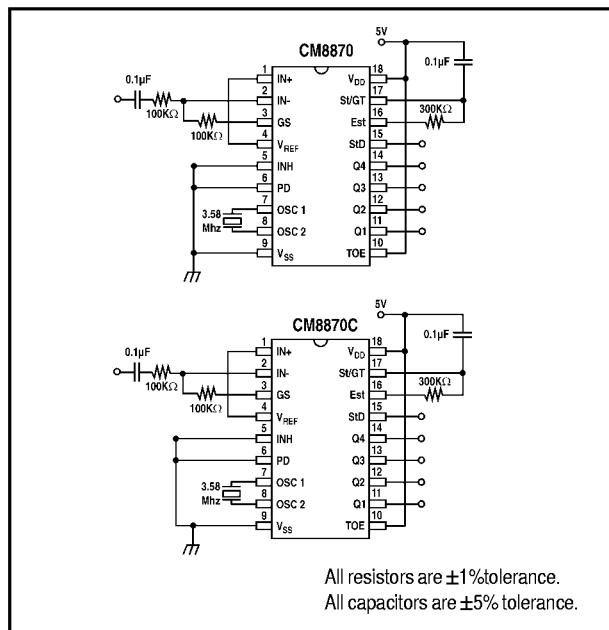

Figure 1. Single Ended Input Configuration
AC Characteristics: All voltages referenced to V_{SS} , $V_{DD}=5.0V \pm 5\%$, $T_A=-40^\circ C$ to $+85^\circ C$, $f_{CLK}=3.579545$ MHz using test circuit (Fig. 1) unless otherwise noted.
| Min. Tone Duration Accept | t_{REC} | | | 40 | mS | (User Adjustable) Times shown are obtained with circuit in Fig. 1) |
- Referenced to Figure 1. Input DTMF tone level at -28 dBm.
The value of t_{DP} is a parameter of the device and t_{REC} is the minimum signal duration to be recognized by the receiver. A value for C of 0.1 uF is recommended for most applications, leaving R to be selected by the designer. For example, a suitable value of R for a t_{REC} of 40 milliseconds would be 300K. A typical circuit using this steering configuration is shown in Figure 1. The timing requirements for most telecommunication applications are satisfied with this circuit. Different steering arrangements may be used to select independently the guardtimes for tone-present (t_{GTP}) and tone absent (t_{GTA}). This may be necessary to meet system specifications which place both accept and reject limits on both tone duration and interdigit pause.
In a single-ended configuration, the input pins are connected as shown in Figure 1, with the op-amp connected for unity gain and V_{REF} biasing the input at 1/2 V_{DD}. Figure 6 shows the differential configuration, which permits the adjustment of gain with the feedback resistor R5.